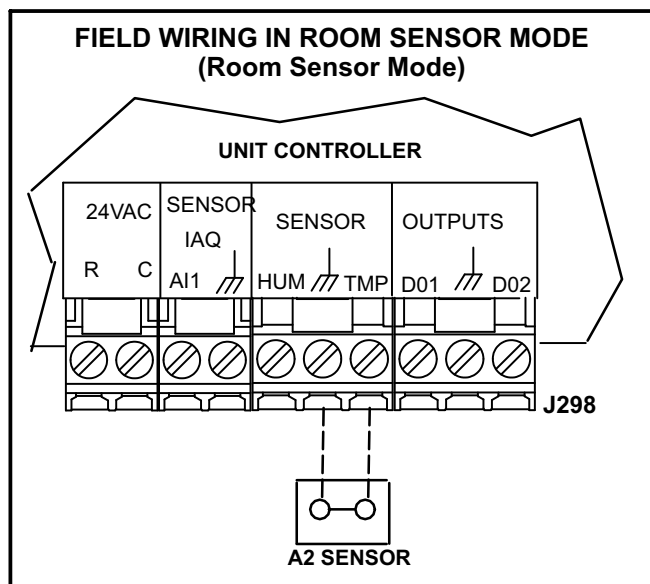
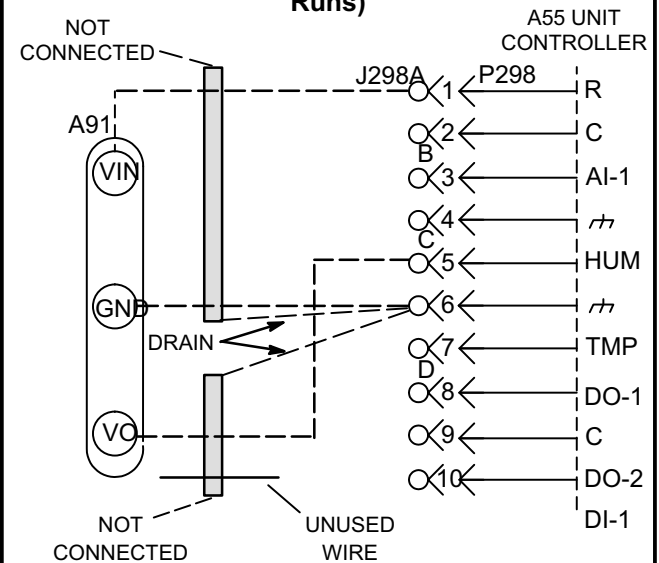

FIGURE 14
FIGURE 17
The Unit Controller will operate heating and cooling based on the Unit Controller internal setpoints and the temperature from the A2 room sensor. An optional Network Control Panel (NCP) can also be used to provide setpoints. A thermostat or return air sensor can be used as a back-up mode. Make room sensor wiring connections as shown in figure 14.
- 2- Make wiring connections as shown in figure 15 for thermostat mode or figure 14 for room sensor mode. In addition, connect either a humidity sensor or a dehumidification input. See figure 16 for dehumidification input wiring or figure 17 or 18 for humidity sensor wiring.
Use two separate shielded cables containing 20AWG minimum, twisted pair conductors with overall shield. Belden type 8762 or 88760 (plenum) or equivalent. Connect both cable shield drain wires to the Unit Controller as shown in figure 17.
Use two separate shielded cables containing 18AWG minimum, twisted pair conductors with overall shield. Belden type 8760 or 88760 (plenum) or equivalent. Connect both cable shield drain wires to the Unit Controller as shown in figure 17.